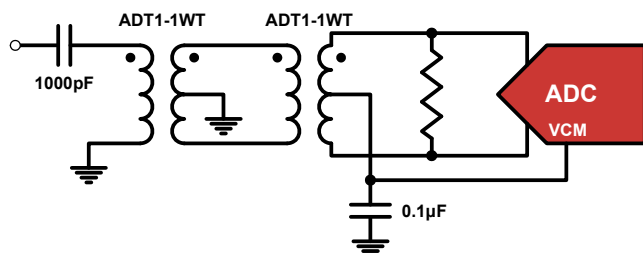

FIGURE 34. TRANSFORMER INPUT FOR GENERAL PURPOSE APPLICATIONS
Best performance is obtained when the analog inputs are driven differentially. The common-mode output voltage, VCM, should be used to properly bias the inputs as shown in Figures 34 through 36. An RF transformer will give the best noise and distortion performance for wideband and/or high intermediate frequency (IF) inputs. Two different transformer input schemes are shown in Figures 34 and 35.